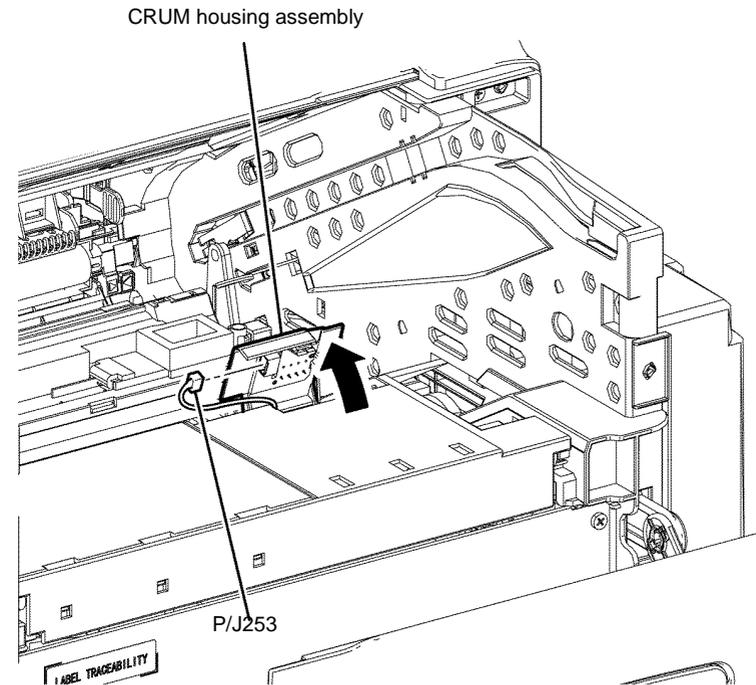

Figure 2 Toner CRUM connector assembly removal
3. Release the hook, open the CRUM housing assembly, Figure 2.
4. Remove the toner CRUM connector assembly, from the CRUM swing housing, Figure 2.
5. Disengage P/J253, Figure 2.